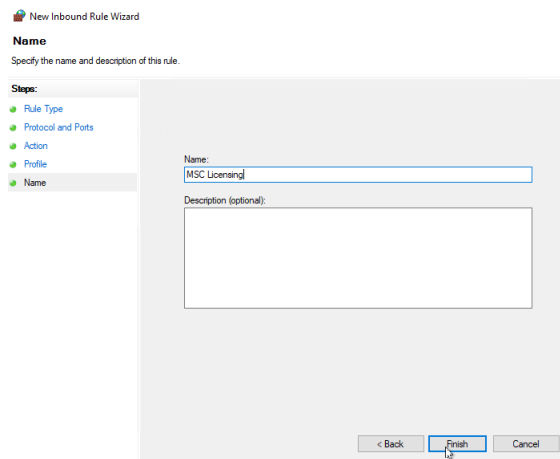

Figure B.6. New firewall rule: name
- Depending on your environment, select **Domain** or **Private** and click **Next**. The last dialog page Figure B.6 will appear.